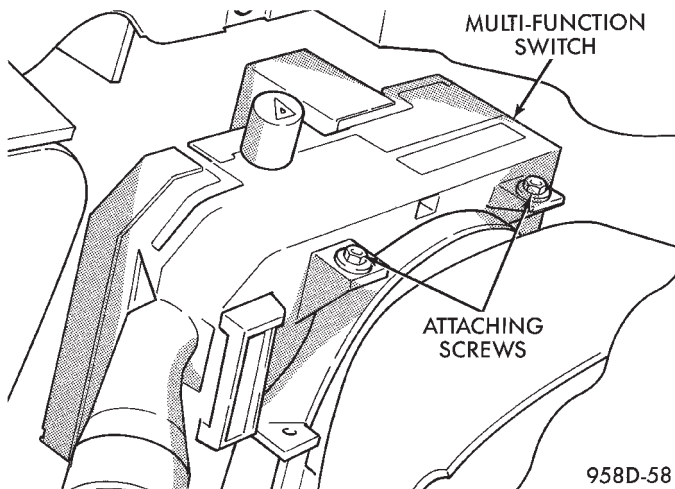

Fig. 58 Multi-Function Switch Removal/Installation
(11) Remove screws holding multi-function switch to lock housing (Fig. 58).